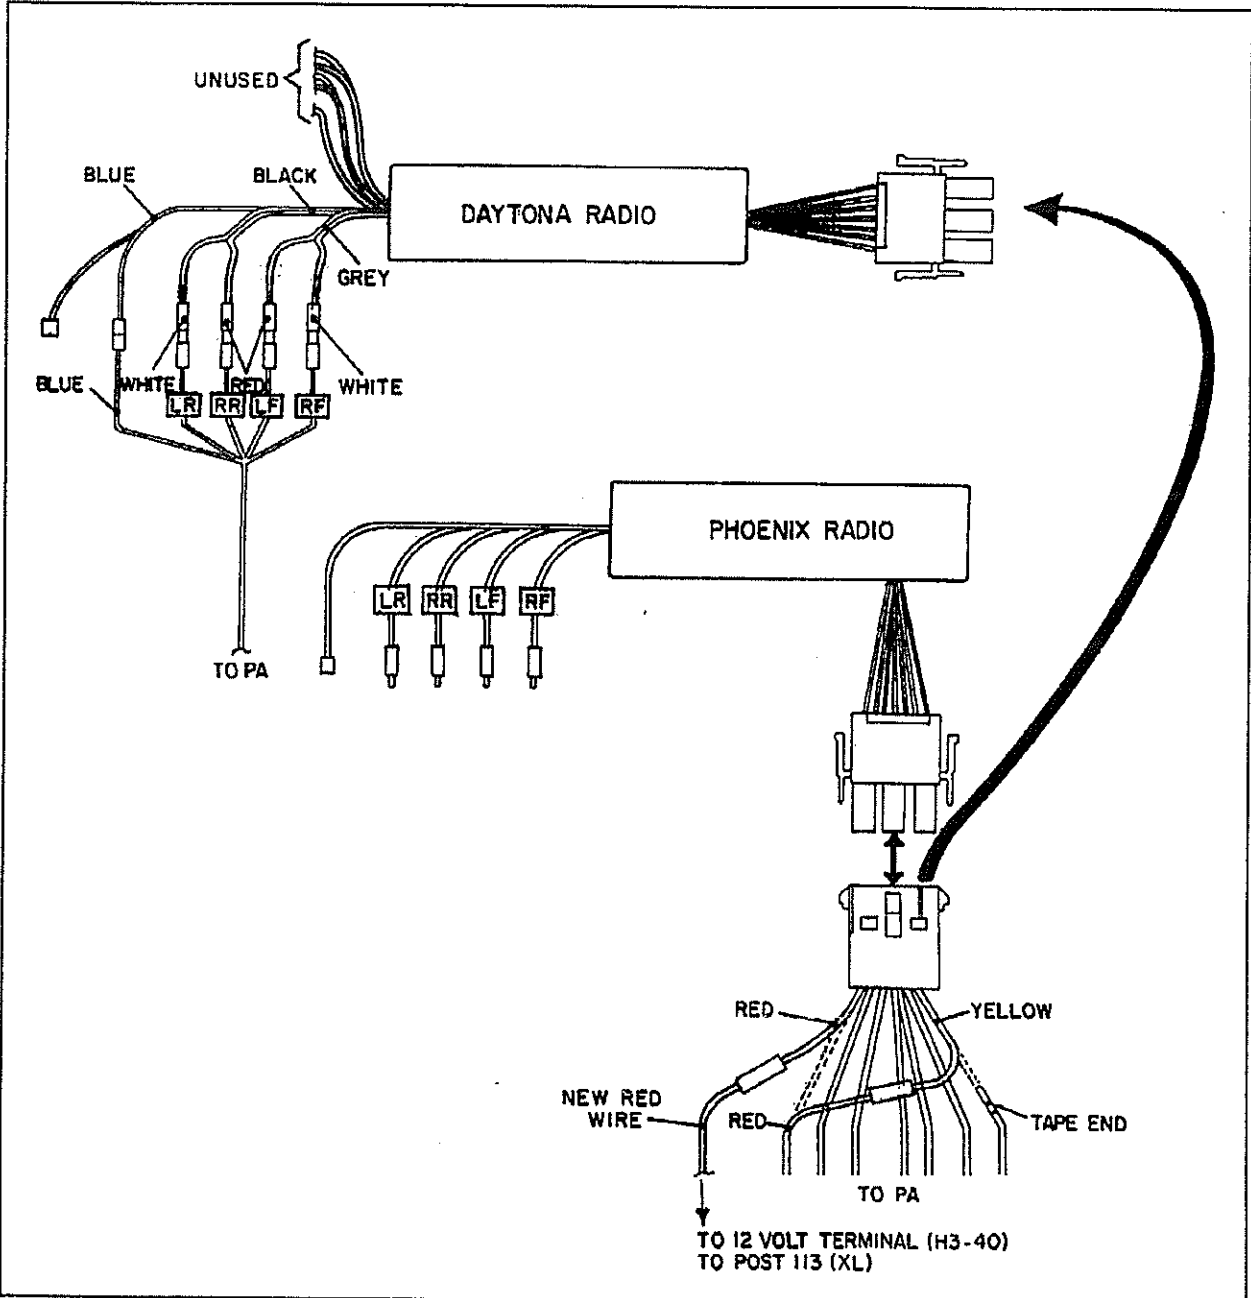

Fig. 3
2. Connect these wires to the corresponding wires of "Daytona" radio according to the color code in figure 3.
5. Identify the red wire inserted in position #9 of connector, cut it at 3" (76 mm) from connector, strip wire extremities, then join and solder the red wire coming from P.A. to yellow wire coming from connector (see fig. 3).